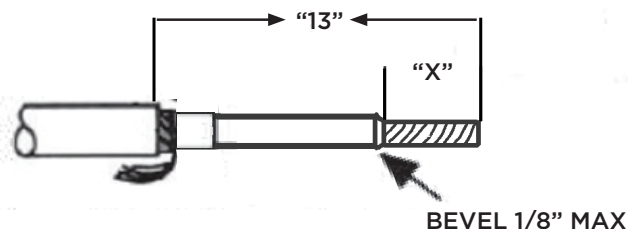

Fig. 4 - Insulation Cut Back
- B. Remove insulation to expose bare conductor. Cut squarely making sure not to cut or nick the conductor. Compression lugs "X" = 4 1/2" Shear Bolt lugs "X" = Depth of Lug (See Figure 4.)